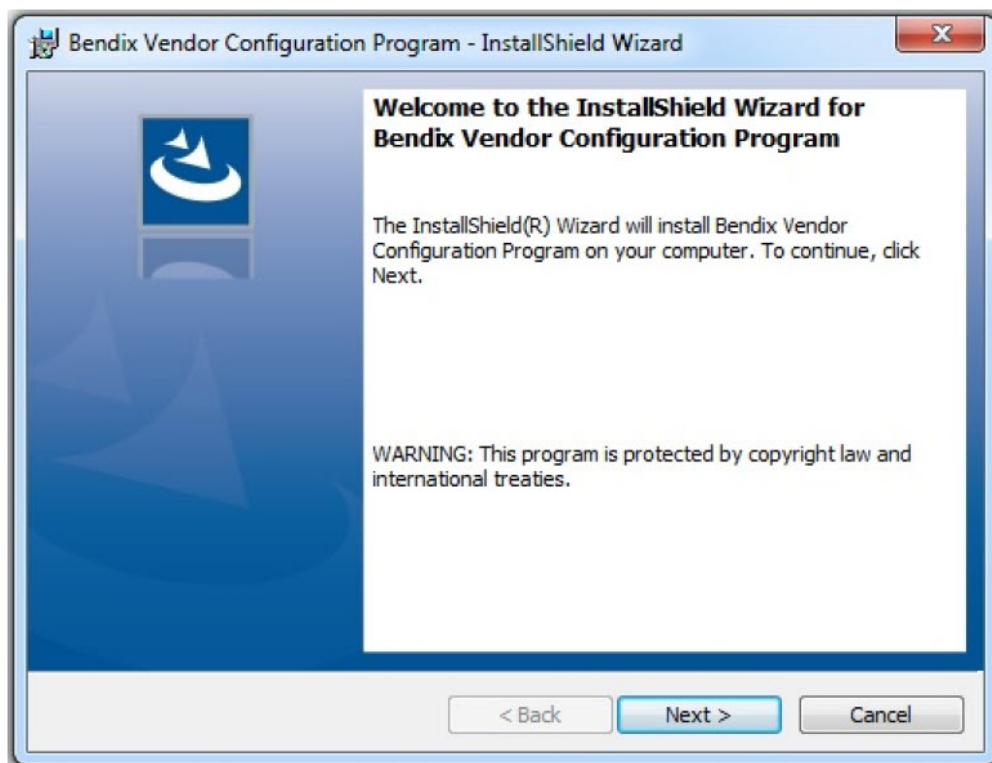

Figure 3
Remove 1/4" airline that runs from ATR6 control port to Hill-start assist valve. See Figures 3 and 4.
7. When the component installation finishes, the installation will continue. Click **'Next'** to proceed. [see figure 3]